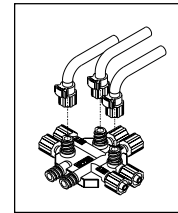
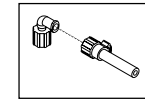

Figure 2-6
Figure 2-7
4. Connect permeate tubing as shown in figure 2-6. Elbow fittings (optional) may be used as shown in figures 2-7 and 2-8.